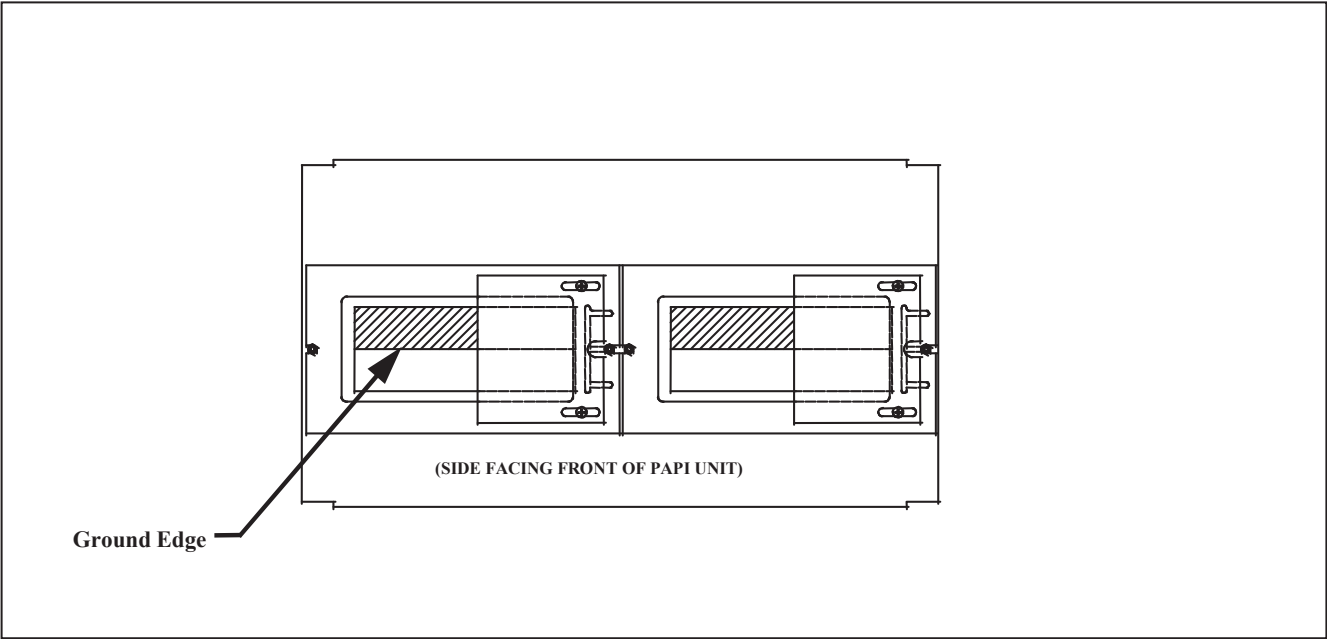

Figure 2. Baffle Located on Right Side of Bulkhead for Obstacle Located on the Left Side
IF the obstacle is on the RIGHT side of the approach area, then install the baffle over the filter slot on the LEFT side. See Figures 2 and 3.
12. Disconnect power from the PAPI unit, remove the jumper from tilt switch (if installed), and reinstall the red filters. Make sure each filter is installed in the same filter holder from which it was removed. The red filter's **ground edge must be installed facing down**. See Figure 2. If the filters are dirty, use a soft cotton cloth moistened with alcohol to clean the filters.